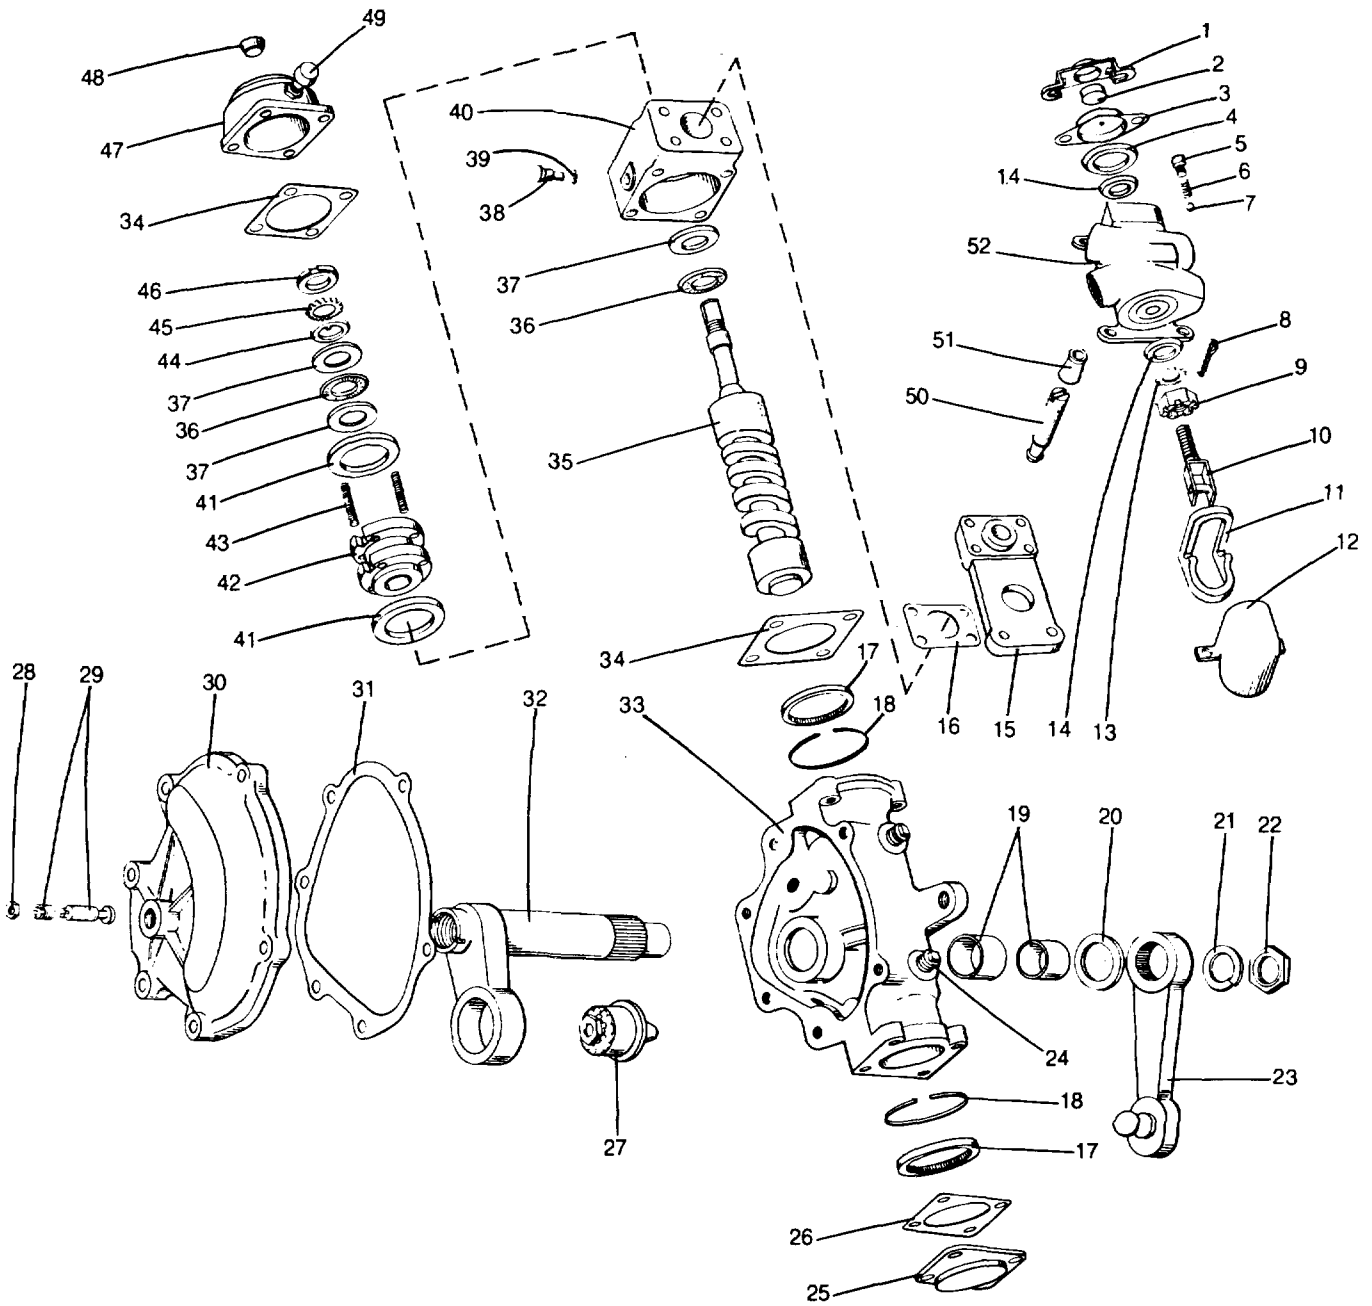

Fig. 1
- (1) Front suspension: Install adapters with intermediate tube (10) (apply rust proofing compound) bolt (9), washer (6) and nut (7), but do not lock nut tight at this time (refer to Fig. 1).